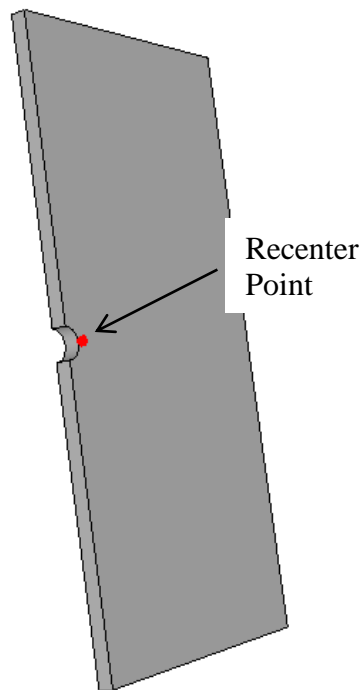

Figure 2.0.2 Recenter.
**Rotate** (left mouse button, no keyboard keys): Mouse motion rotates the model on the screen. The mouse can be moved in any direction. The axis of rotation is defined to be perpendicular to the mouse motion and passes through the current center of rotation. The center of rotation is defined as the horizontal and vertical center of the graphics window at a location midway between the front and back clipping planes (described below). The center of rotation can be changed, Fig 2.0.2, using the Ctrl key and left mouse button (or with the **Recenter** button).